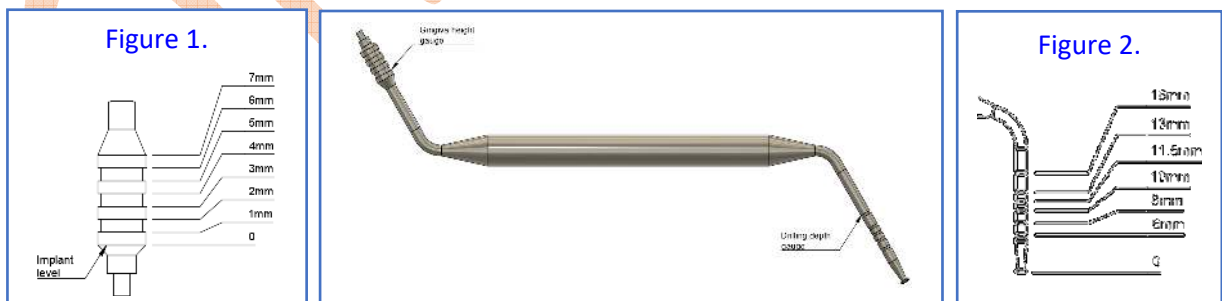

Figure 1. Depth Probe
1. Measures the Gingival Height – can be used to measure the gingival height following external fixture grafting. After implant placement insert the depth probe into the implant to verify the gingival height to choose the appropriate abutment, healing cap. Each marking groove above the implant level (0), as marked at figure 1, has 1mm step - 0 to 7mm.
See figure 1.